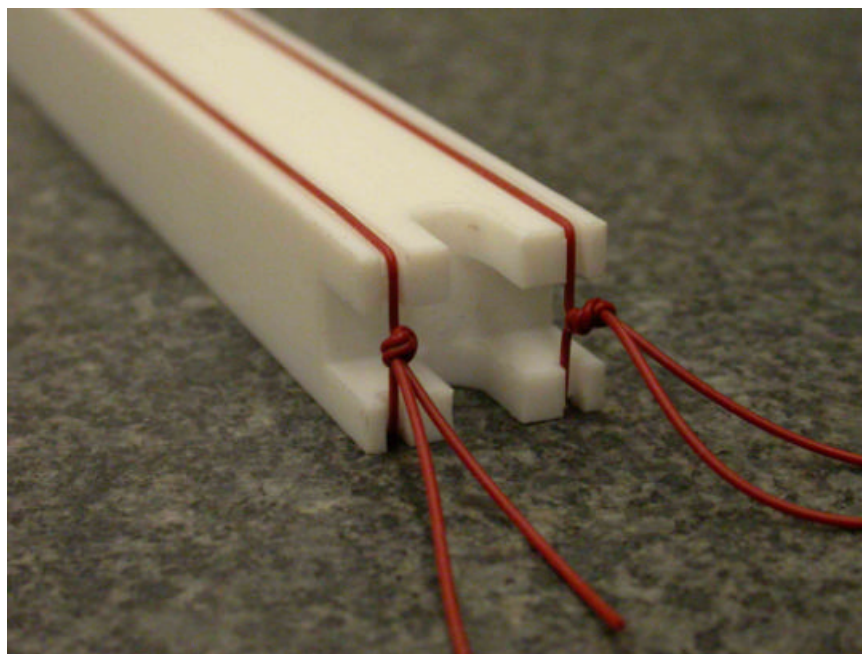

Figure 5.2-1: Elastic Cord Installation onto Cord Insertion Mandrel
5. Loop the elastic cords onto the right and left side recesses of the Teflon cord insertion mandrel. (If elastic cords are knotted, the knotted ends should fit between the access notches of the Teflon mandrel as shown in Figure 5.2-1.